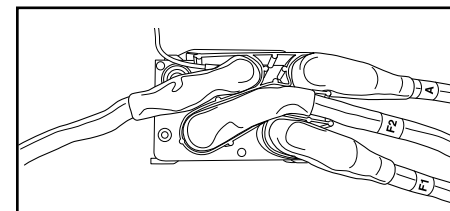

Figure 12
9. Connect cables to contactor using the terminal nuts and lock washers previously removed. Connect the labeled cables (A, F1 and F2) to corresponding terminal. *Torque nuts to 8.5-9 N-m (75-80 in. lbs.).* Refer to Figure 12 for Final Cable Assembly.